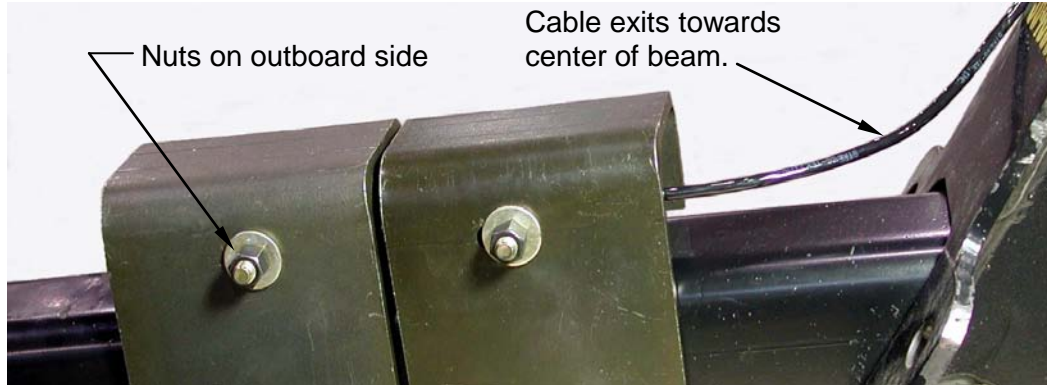

Figure 18
- b. Set both sensors on the equalizing beams (one on each side of the truck) under the J brackets with the **serial number facing up** and the **cable exiting towards the center of the beam**, as shown in Figure 18. Do not insert the fasteners at this time.
- a. **Make sure the serial number is facing up** and attach **one** sensor to the brackets using the 2 ¼" long Grade 8 screws. The screws must be clean and dry – **Do Not lubricate**. Use a heavy washer, P/N: 30-70015-003, (supplied in the J bracket kit) under the screw head and under the hi-nut. Screws should be inserted from the inboard side with the hi-nuts on the outboard side, see Figure 18. **Do not** install a washer between the J bracket and sensor. Hand-tighten the mounting fasteners.